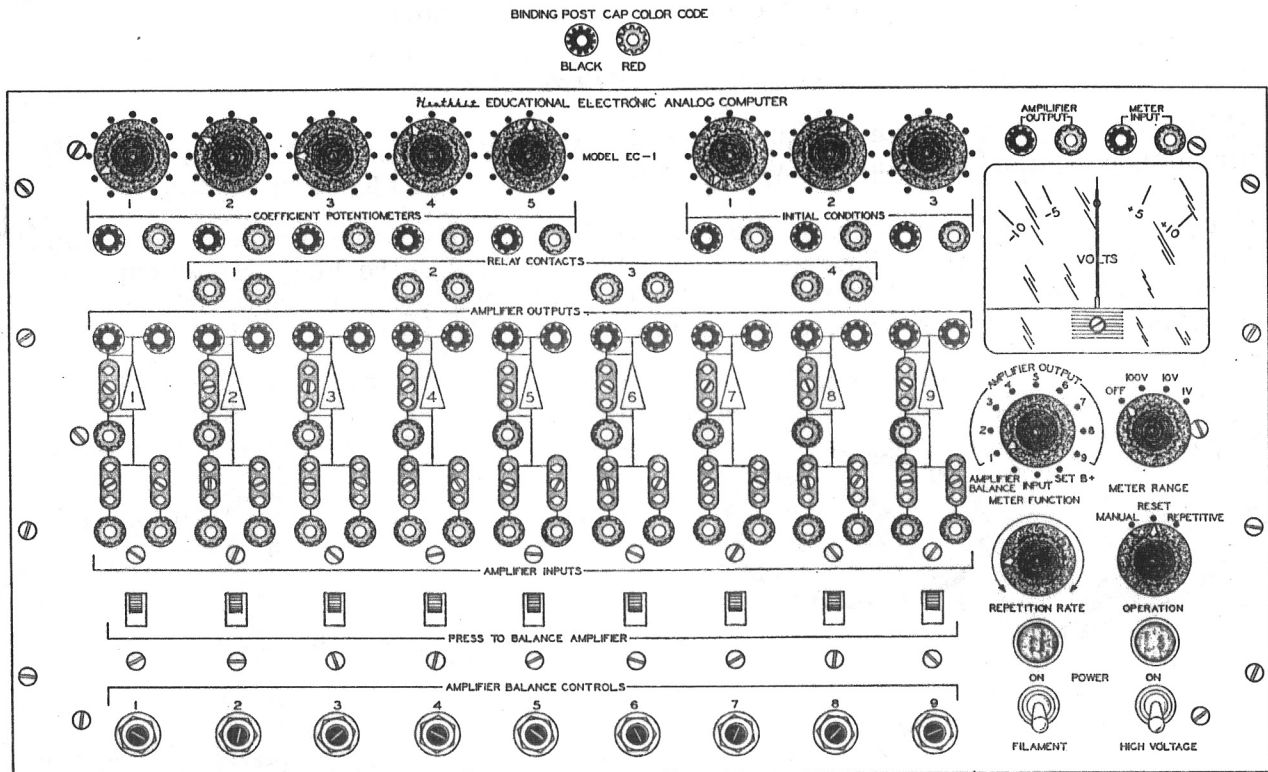

Figure 21
- (✓) Install binding post caps on the binding posts, referring to Figure 21 for information as to which binding posts receive red binding post caps and which receive black binding post caps.